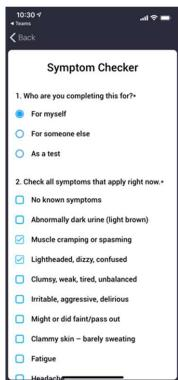

Figure 20
3. After you acknowledge the Stop Work notification, complete the Symptom Checker questions (Figure 20).